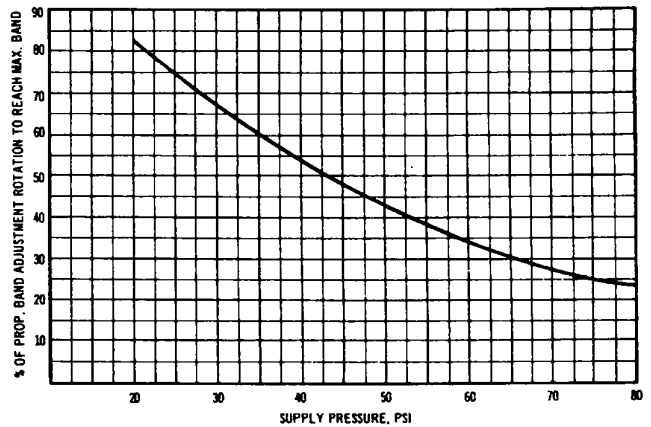

Figure 7 - Location of Maximum Band Setting
* To adjust when necessary, subject tube of temperature pilot to a temperature of approximately 70°F then turn adjusting screw (9) outward until it is clear of diaphragm complete (2) and proceed as follows (See Figure 7).